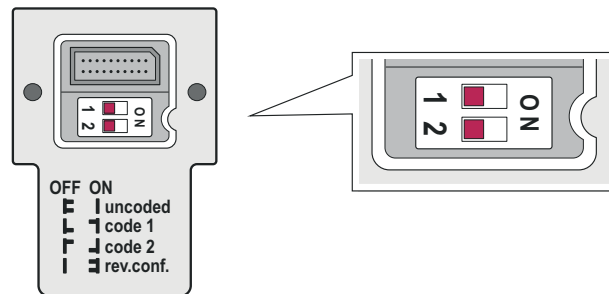

Figure 38: Reset to factory settings
3. Set both DIP switches to ON, see figure 38.